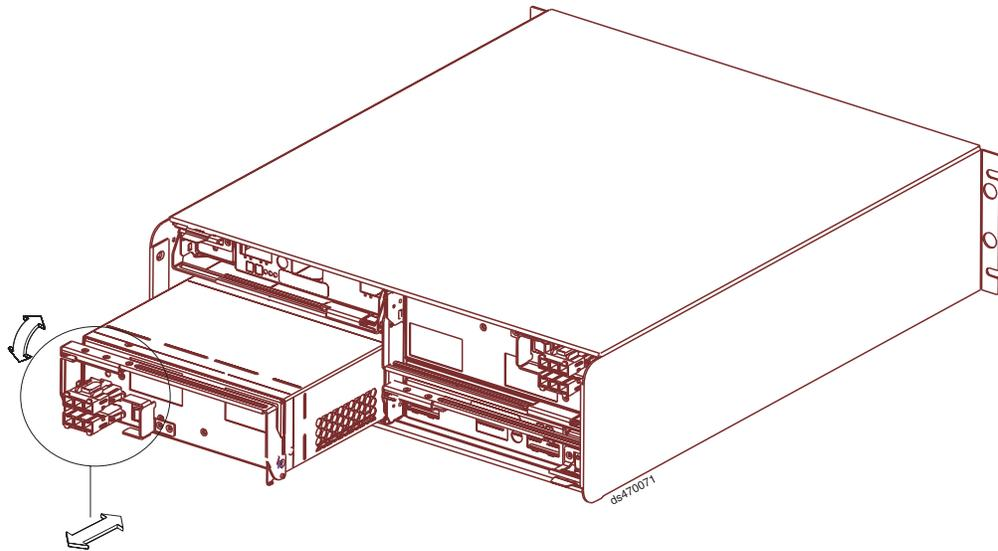

Figure 107. Replacing a DC power supply and fan unit
11. Slowly pull the lever away from the chassis to remove the DC power supply and fan unit, as shown in Figure 107 on page 166.